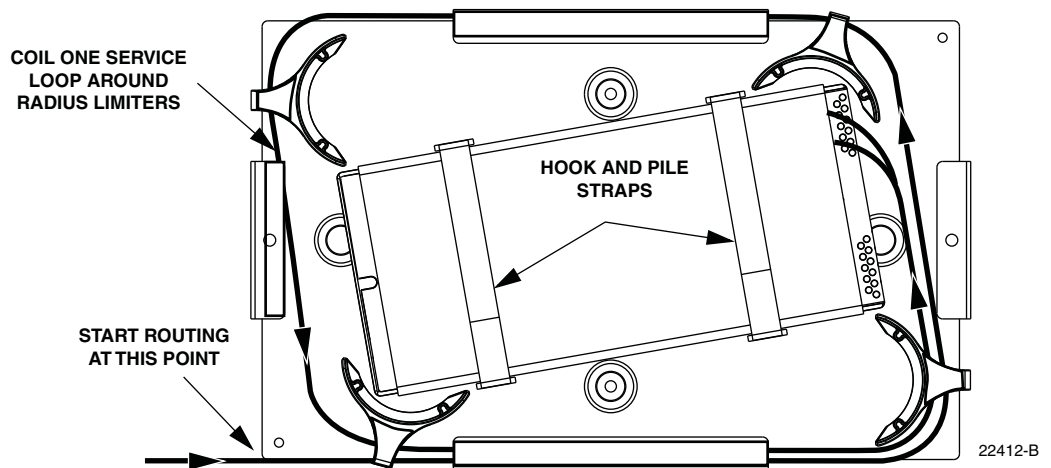

Figure 25. Feeder Splice Tray Replacement
12. To replace the splice tray, route the attached tubes around the splice tray holder radius limiters (there should be two service loops) as shown in Figure 25. Avoid twisting or kinking the fiber tubes. Maintain a 1.5-inch (3.81 cm) minimum bend radius for all non reduced bend radius fiber.
12. To replace the splice tray, route the attached subunits (there should be two service loops) around the splice tray holder radius limiters (see Figure 25). Avoid twisting or kinking the fiber subunit tubes. Maintain a 1.5-inch (3.81 cm) minimum bend radius for all non reduced bend radius fiber.